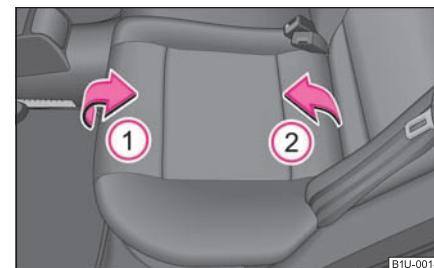

Fig. 59 Folding the seat cushion forwards
- Pull up the seat cushion in direction of arrow ① and fold forwards in direction of arrow ② ⇒ page 60, fig. 59.